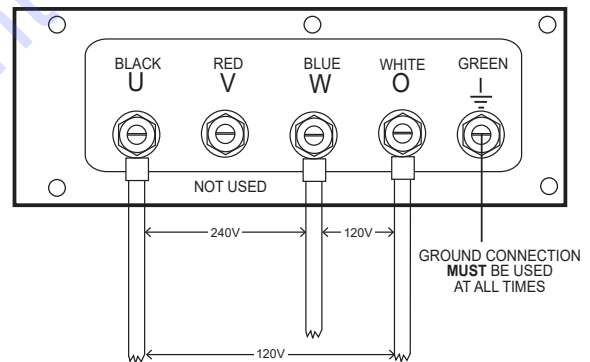

Figure 26. UVWO Terminal Lugs
2. Connect the load wires to the UVWO terminals as shown in Figure 26.